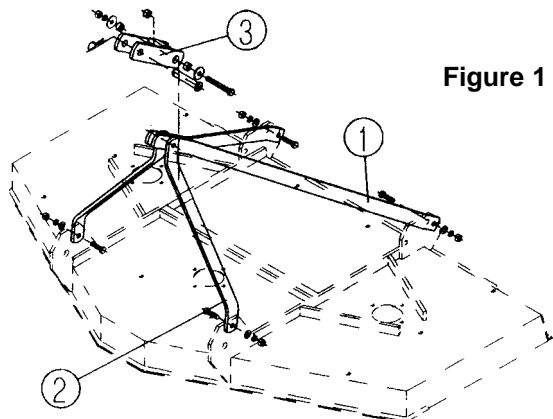

Figure 1
Refer to the "exploded views" of this manual and **figure 1**. Attach the rear brace bars (1) to the lugs on the rear of the deck with the correct hardware. Attach the A-Frame bars (2) to the lugs on the front of the deck. Connect the upper ends of the A-Frame bars with the rear brace bars and swinging top link clevis together with the M12 bolt, washers, spacer and locknut.